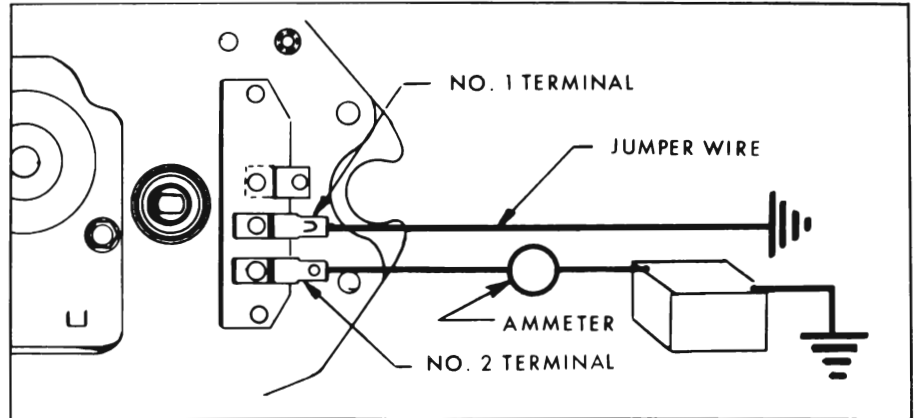

Figure 10-75—Connections to Operate Wiper out of Car
Figure 10-75 shows the proper method of connecting jumper leads to the wiper so that it can be operated independently of the dash switch or car wiring for test purposes. (NOTE: Specification table at end of this section lists current draw data.)
operate, disconnect wiring harness from wiper and check for 12 volts at harness terminal that connects to wiper terminal No. 2, Figure 10-75. No voltage indicates defective car wiring. **CAUTION: DO NOT** connect hot line to No. 1 terminal.
(c) Connect 12 volt supply to No. 2 wiper terminal and connect a jumper wire from terminal No. 1 to ground (Figure 10-75). If wiper operates, the dash switch or wiring between dash switch and wiper is defective.
(b) If wiper still operates, disconnect wiring from wiper and connect 12 volt supply direct to wiper terminal No. 2 (Figure 10-75). **DO NOT** connect any jumper wire to terminal No. 1.
Connect a 12 volt supply and an ammeter to wiper as shown in Figure 10-75 and observe current draw and wiper operation.
is removed from wiper terminal No. 1 (Figure 10-75).
(b) Check for grounded condition in the internal motor lead that connects to terminal No. 1, Figure 10-75.
Wiper crank arm stops rotating immediately when jumper wire is disconnected from wiper terminal No. 1 (Figure 10-75). NOTE: Crank arm should continue to rotate until park position is reached (Figure 10-73).
2. Reassembly of Crank Arm Operate wiper to park position (Figure 10-75) and install crank arm on output shaft in the position shown in Figure 10-73. Clamp crank in vise before securing the retaining nut.